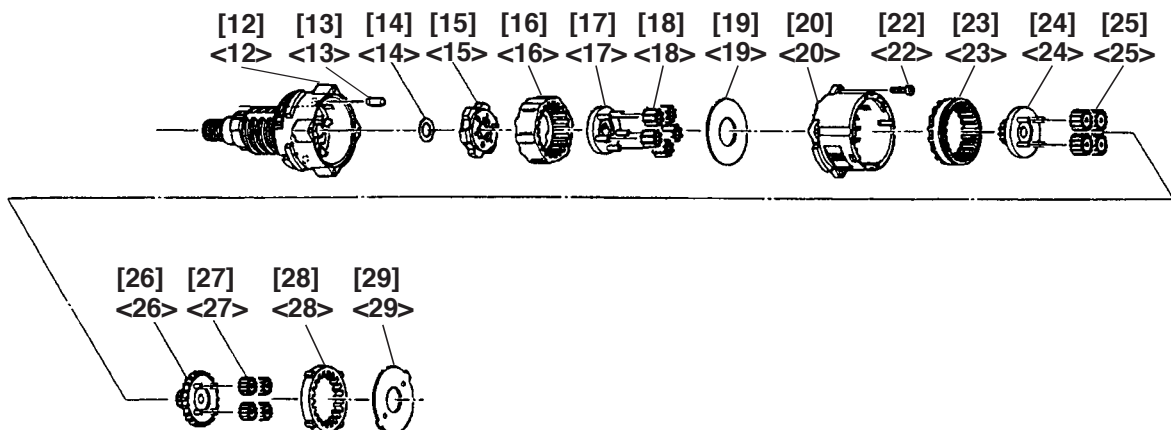

Fig. 8
(3) Reassembly of the gear unit
- (b) Mount the parts from the Pin Set (6 pcs.) [13] <13> to Washer (B) [29] <29> to the part assembled in the above (2) in order (see Fig. 8).
- ④ Pay attention to the mounting direction of the Ring Gear [16] <16>, Slide Ring Gear [23] <23>, Pinion (C) [24] <24> and Pinion (B) [26] <26> (see Fig. 8).
- ① Mount the Shift Arm [21] <21> to the protruded side of the Rear Case [20] <20>. At this time, insert the protrusion of the Shift Arm [21] <21> into the hole of the Rear Case [20] <20> and check that the protrusion is inserted into the groove of the Slide Ring Gear [23] <23> that is mounted in the Rear Case [20] <20> (see Fig. 8).
- ② Insert the Shift Arm [21] <21> into the groove of the Shift Knob [41] <41> facing "LOW" indication on the Shift Knob [41] <41> backward.